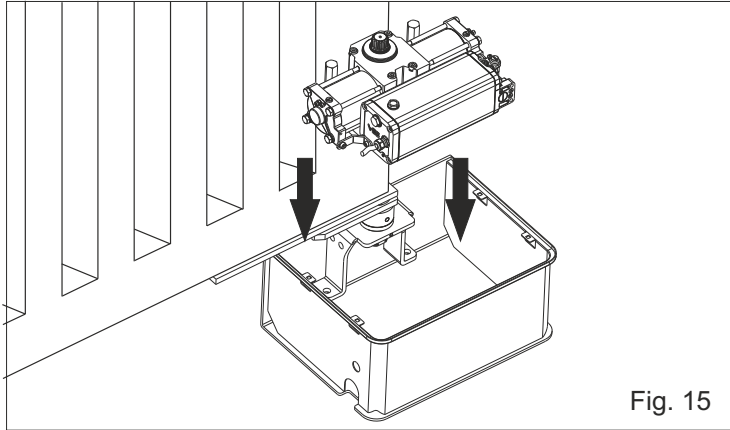
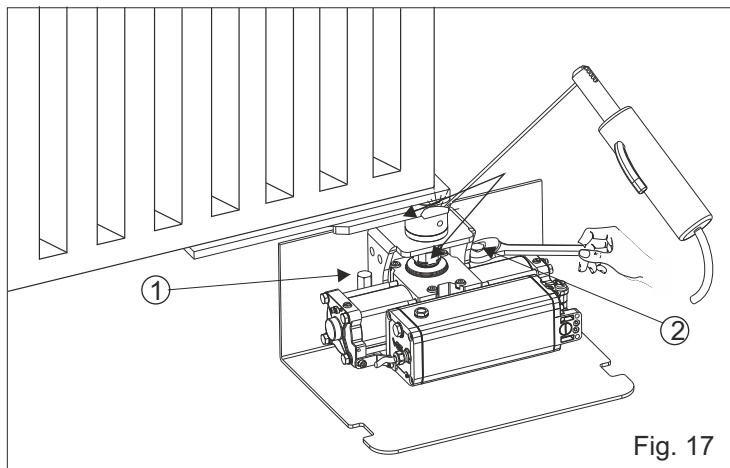

Fig. 15
Fig. 17
4.1. Insert manually the operator into the carrying box (Fig. 15) also insert the splined shaft of the operator into the splined bush of the box and fix the operator with the special screws as in Fig. 17